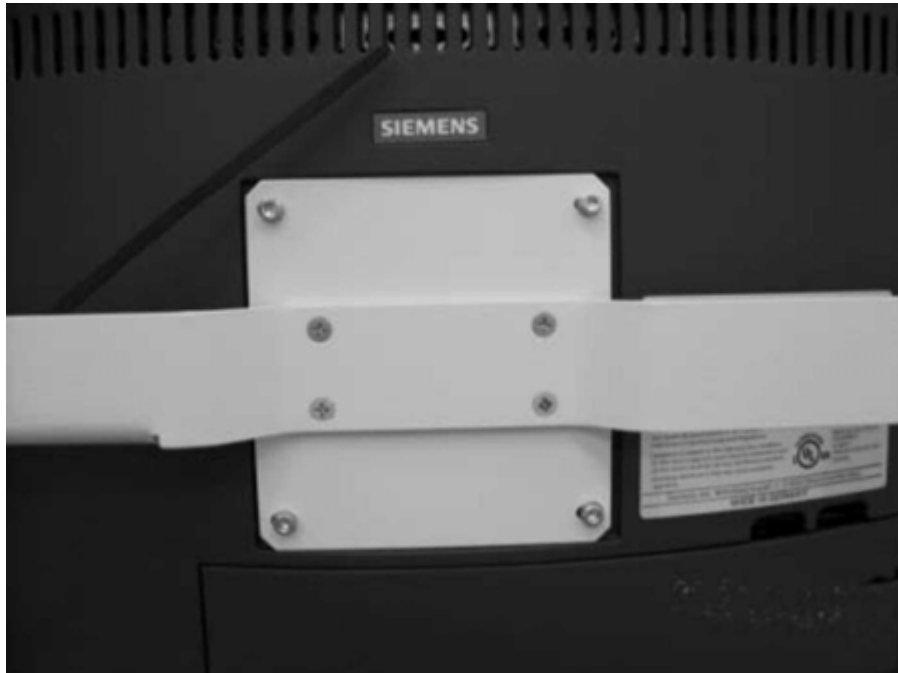

Fig. 49: Monitor attachment on the back
- Attach the flat screens with 4 hexagon-socket-head cap screws M4 x 16 (Fig. 49 / p. 73).